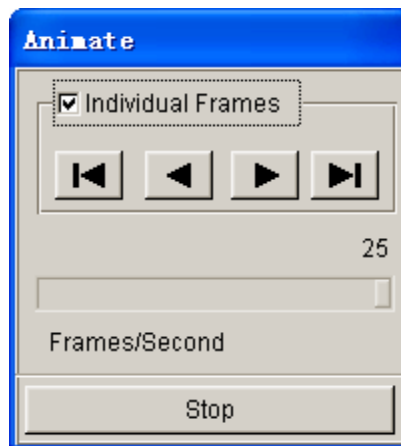

Figure 2.37 Animate control dialogue box
3. You can select **INDIVIDUAL FRAMES** option from the ANIMATE dialog box illustrated in Figure 2.37 to display incremental tool movement.